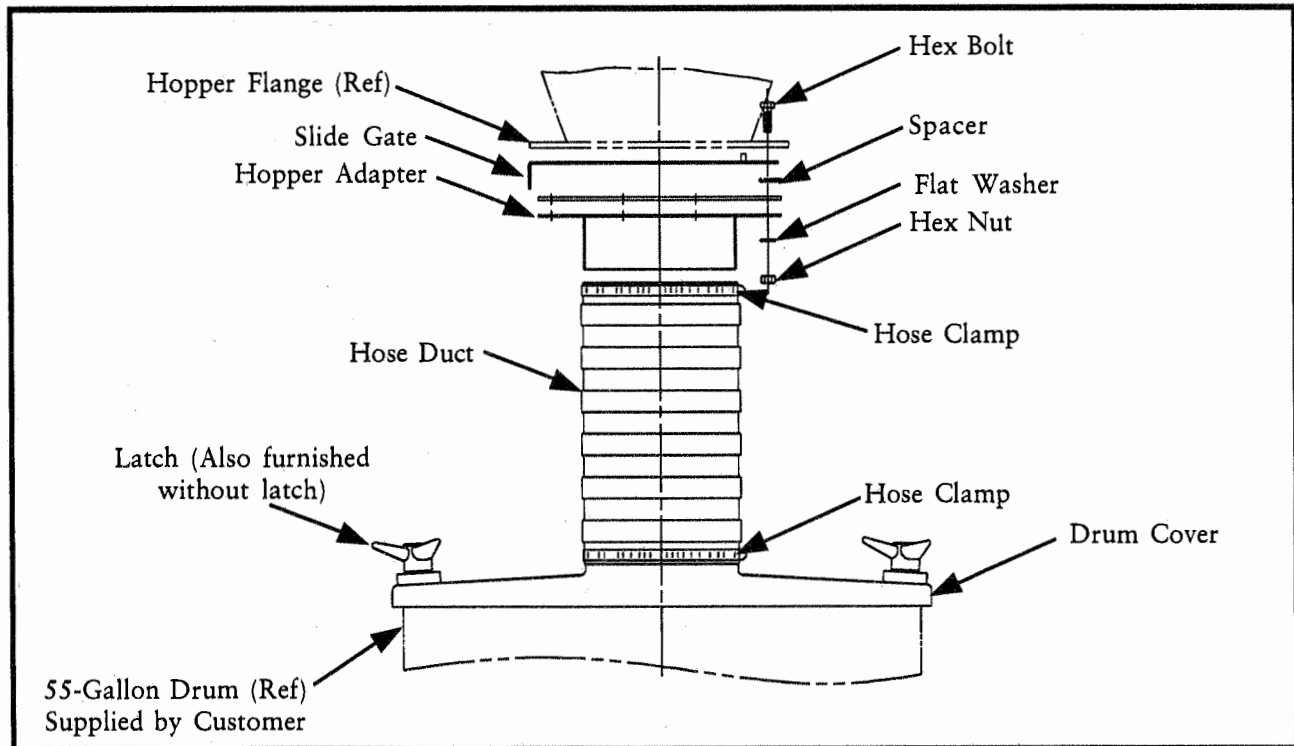

Figure 6
2.6.1 55-Gallon Drum Cover Pack With Gate (See Figure 6)
1. Apply 1/4" diameter sealant between the hopper flange and the slide gate as shown in Figure 6.
2. Fasten the drum cover pack and slide gate to the hopper flange using 3/8" bolts, washers, and nuts as shown in Figure 6.
3. Attach drum cover to 55-gallon drum as shown in Figure 6. If latches are included, use them to hold the cover to drum as shown.
2. On hoppers with drum arrangements, make sure all the connections are airtight (see Figure 6).